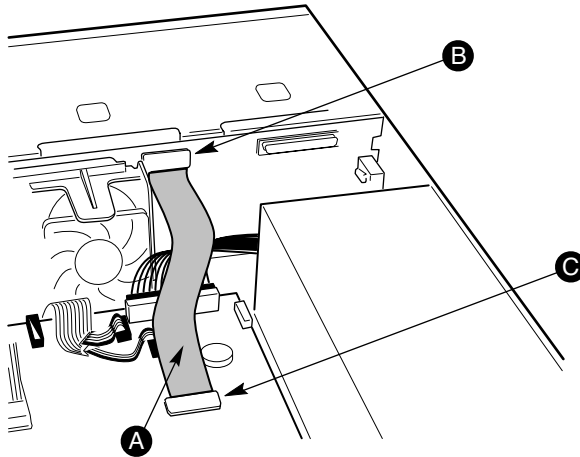

FIGURE 5-45 Installing the Flex Cable
1. **Install the flex cable (A) between the backplane connector (B) and the server board connector (C) (see Figure 5-45).**